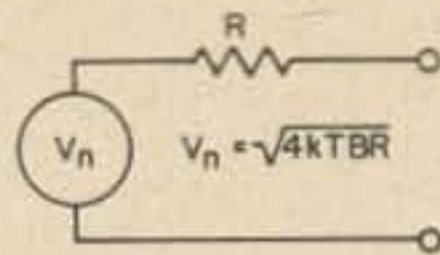
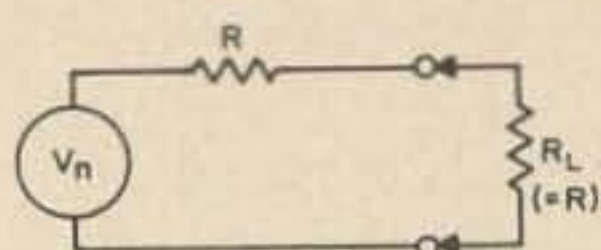

Fig. 2. Noise equivalent circuit for an electrical conductor or resistor.
Fig. 4. Loading the circuit of Fig. 2 to obtain maximum available output noise power.
the noise equivalent circuit for an electrical conductor, or resistor. See Fig. 2.
The next question that we might ask is, what is the noise voltage if I have two or more resistors in series or parallel? It can be shown mathematically that Fig. 2. can still be used. First you find the effective resistance of the combination, this is then R . Then v_n is found from this R , by using Equation (2). Consequently, it is pretty simple to find the noise equivalent circuit for most resistive networks.
Now we must find how much noise power is available from the circuit of Fig. 2. Most amateurs will tell you that you will draw the most power from a circuit like Fig. 2. when you load it with another resistance equal to R , and this is true. The new circuit is Fig. 4.